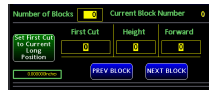

Figure 8.3: Block Details Entry Fields
Blocks are the actual stone blocks as laid out on the cutting floor by the Operator. The details about the block that are used in the program are shown in Figure 8.3. The **Number of Blocks** is set by the Operator according to the actual block count on the cutting bed. The **Current Block Number** indicates to the Operator which block they are actively programming, it is not settable. The PushButton **Set First Cut to Current Long Position** will set the First Cut for the active block to the actual Long Axis Position (displayed below the button). Of course, the Operator could just enter a desired **First Cut** in the entry field provided. The **Block Height** must be entered by the Operator, this determines where the depth of the first cut for the block ends up as a result of the equation $Block\ Height - Cut\ Depth$. The **Forward Position** for Cross Travel is entered by the Operator, to tell the saw when the blade is out of rock. Since the Cross Travel will drift a fair amount when stopping, this should be treated as the minimum distance desired to ensure the blade has left the rock safely. The **PREV BLOCK** and **NEXT BLOCK** buttons are used to scroll through the blocks to be programmed. They are only active if there is a next or previous block to view. If a block is desired to be cut with only a **First Cut** and no slabs, then the Operator would need to ensure that there is a zero (0) in the **Number of Slabs** entry field of the Slab Details (Section 8.2.3).